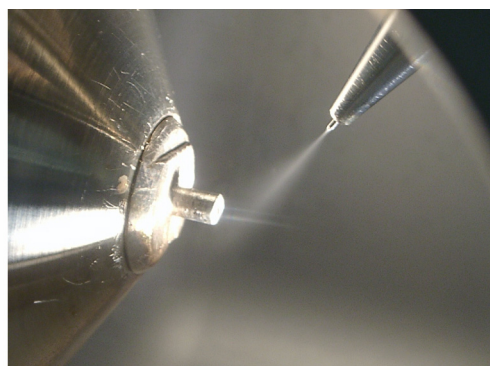

Figure 3-9. Ion transfer tube (capillary), spray nozzle, and electrospray
- b. Use the micrometer on the top front of the Ion Max source to adjust the H-ESI probe position so that the outer edge of the spray barely flows past the entrance of the ion transfer tube. Make sure that the bulk of the spray does not physically hit the nose of the ion transfer tube. See Figure 3-9.